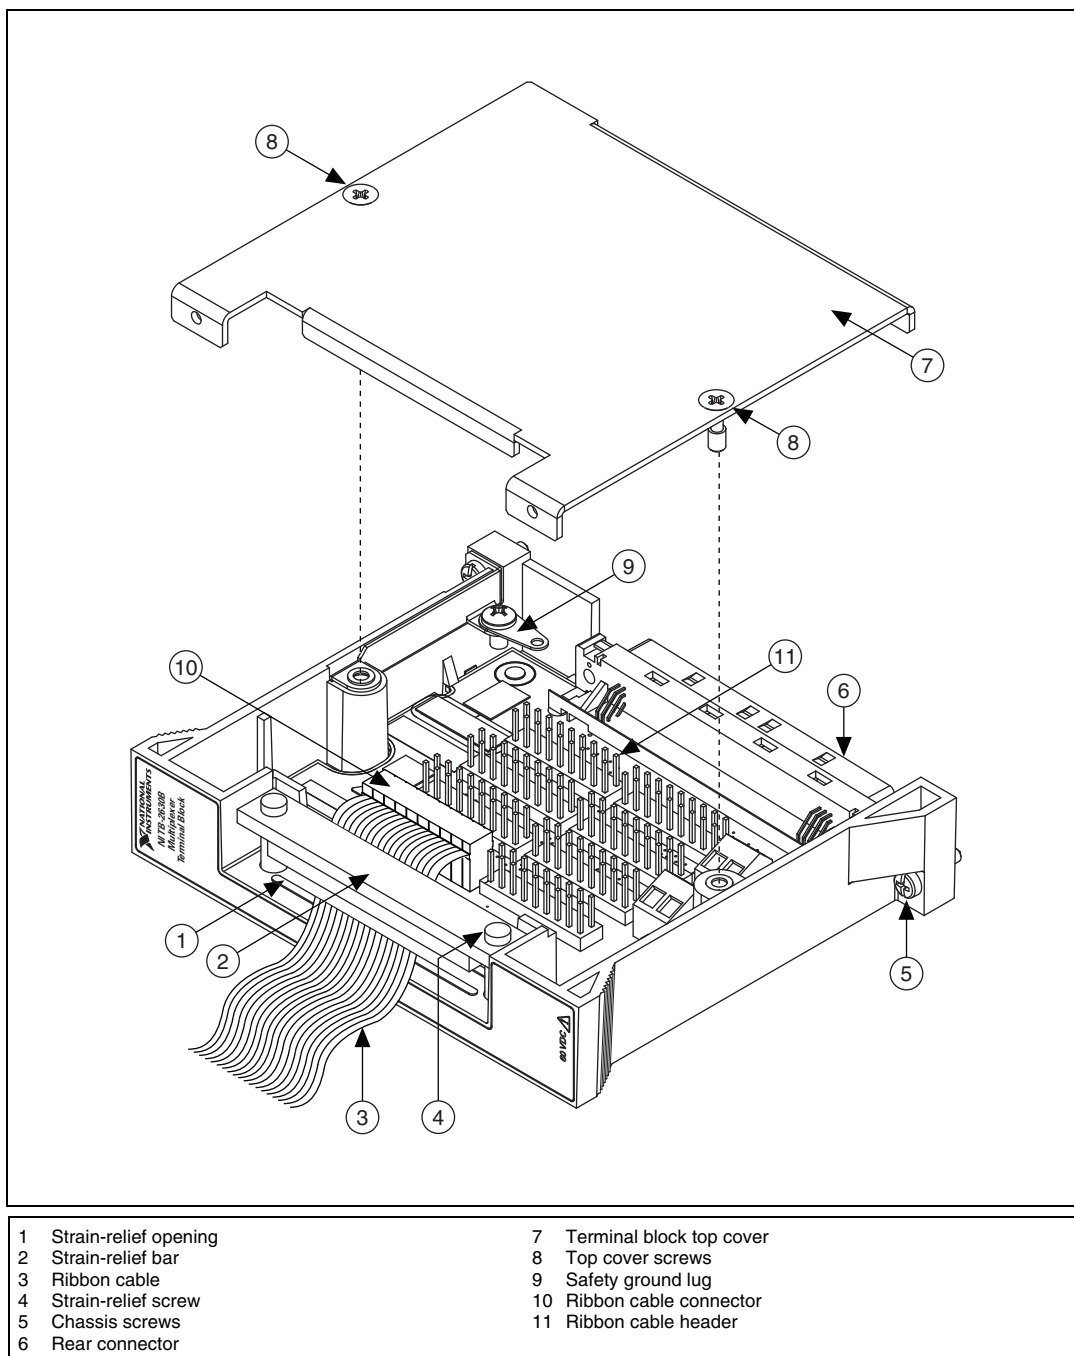

Figure 1. NI TB-2630B Terminal Block
6. Connect the shield of the ribbon cable to the safety ground lug shown in Figure 1.